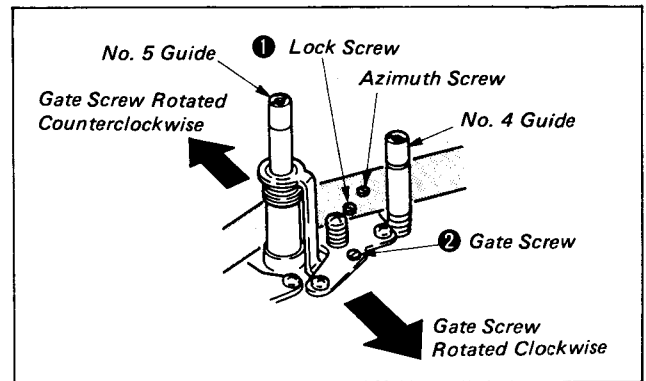

Fig. 1-78
- 1) Play back the tracking alignment tape, rotate No. 4 guide counterclockwise and No. 5 guide clockwise, respectively, then free the tape running on the outlet side. (See Fig. 1-78.)
- Rotate the lock screw ① counterclockwise to loosen.
- Slowly rotate the gate screw ② by 45° and wait until the RF waveform changes.
- Rotate the lock screw ① clockwise to tighten. (See Fig. 1-78.)